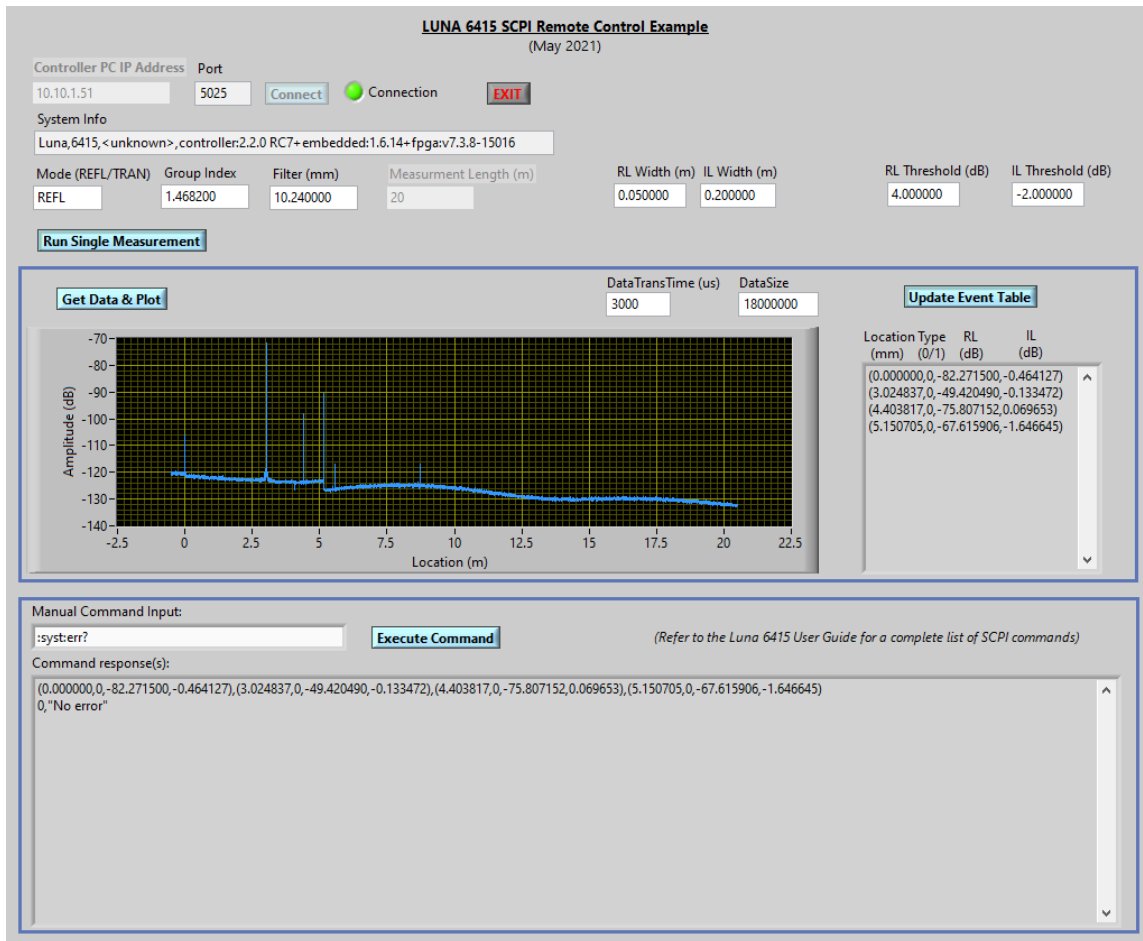

Figure 6. LabVIEW sample 3 – Front Panel
This LabVIEW example is a remote-control application with more advanced user interface (UI) and loaded features, as shown in its LabVIEW front panel screenshot in Figure 6.